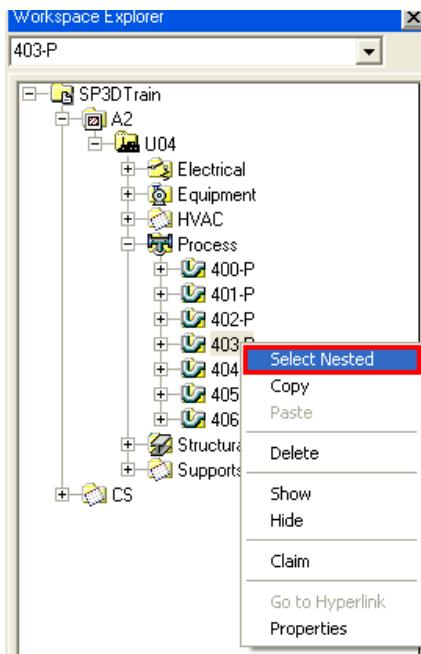

Figure 18. 2: Workspace Explorer Window
3. Right-click the pipeline system **403-P** and click the **Select Nested** command in the menu, as shown in Figure 18. 2, to select all the piping objects in the graphic view.